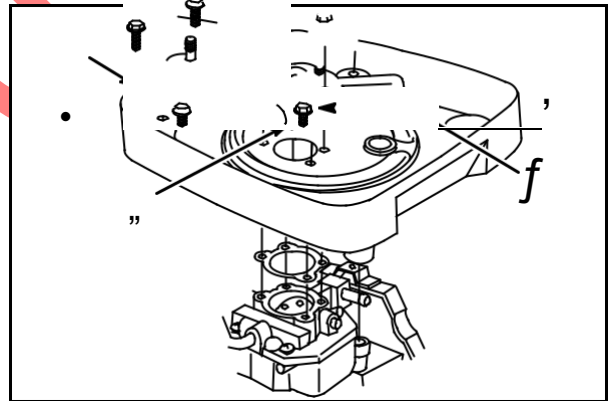

Fig. 40
Guide breather tube onto breather nipple. Install air cleaner base (1) on carburetor and support bracket, **Fig. 40**.